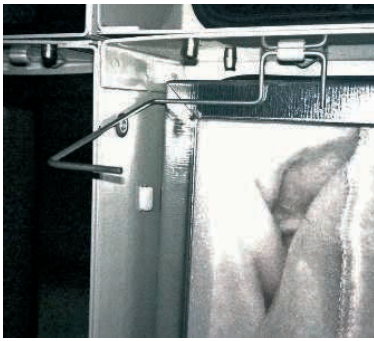

Figure 24
- From the contaminated side, the filter is inserted into the filter section and pressed against the frame seal. The filter is locked by a spring clamp fastener at each corner (Figures 24, 25).